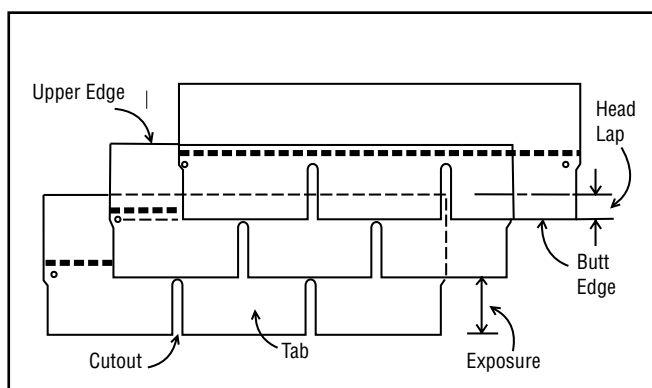

Figure G1-1
**Butt edge** – The lower edge of the shingle tabs (Figure G1-1).